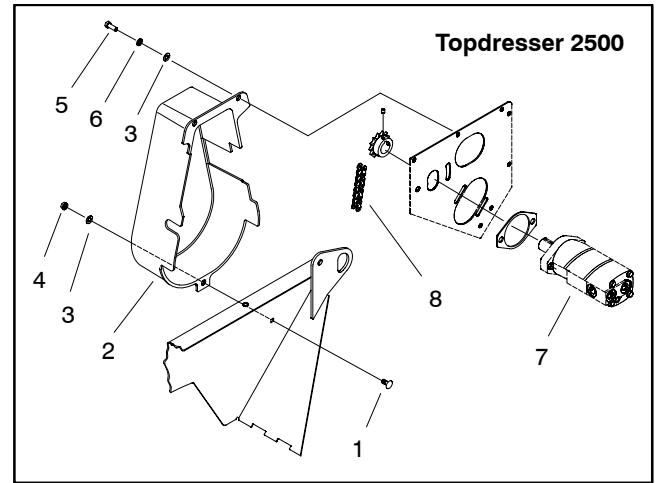

Figure 6
A. Remove conveyor chain guard and disconnect drive chain (Figs. 6 and 7).
5. Apply Loctite #242 (or equivalent) to threads of locking collar set screws (item 22). Install and tighten set screws to secure locking collars to roller shaft.
7. If rear roller was removed, install sprocket spacer, square key and then sprocket to roller shaft. Make sure that hub side of sprocket is outward (away from frame) and that sprocket is tight against spacer and roller. Apply Loctite #242 (or equivalent) to threads of set screws (item 3). Install set screws to secure sprocket to roller shaft.
E. Install chain guard (Figs. 6 and 7).